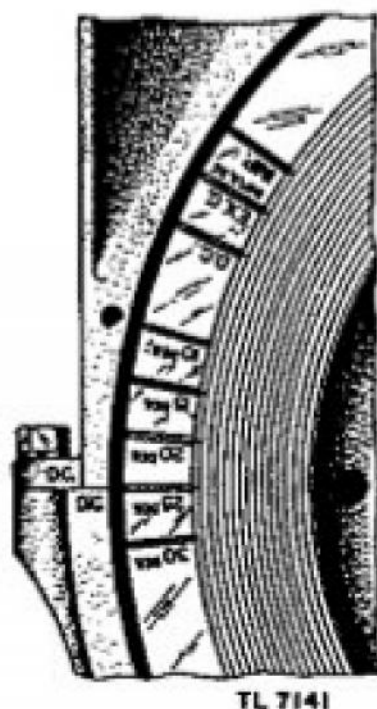

Figure 28. Flywheel timing marks.
b. Before meshing the accessory shaft drivegear, it is necessary to turn the crankshaft until the impulse mark on the flywheel is aligned with the dead center mark on the bell housing, when the No. 1 cylinder is in firing position. (See fig. 28.) To get the No. 1